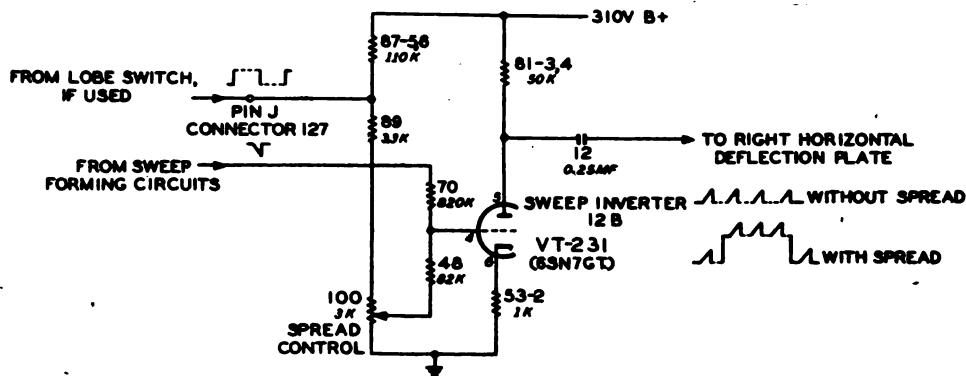
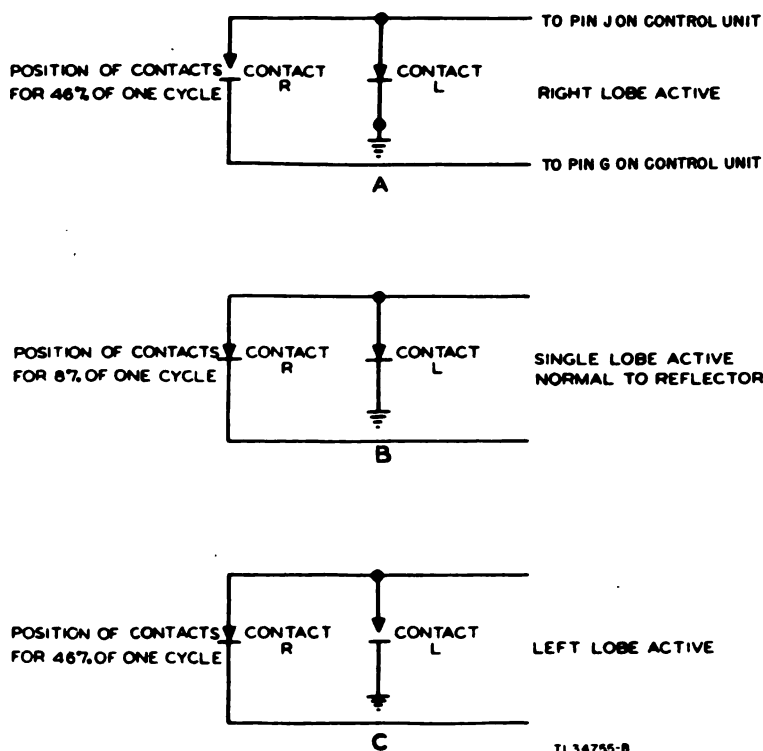

Figure 46. Sweep inverter and spread circuits.
Figure 49. Typical cam operation with a lobe-switching antenna.
**a. Sweep Inversion.** Antenna Tower Kit AS-134/TPX is normally furnished as part of Radio Equipment RC-384. This antenna system has no provisions for lobe switching. The circuit of figure 46 will therefore first be described as though no rectangular voltage wave (spread voltage) were present. In this case the SPREAD control 100 (fig. 46) is left in the counterclockwise position, that is, with the moving arm at the grounded end of resistor 100. The negative saw-tooth pulse from the sweep forming circuits is attenuated by the voltage divider consisting of resistors 70 and 48. The voltage divider applies the negative saw-tooth pulse at one-eleventh the original amplitude to the grid of sweep inverter tube 12B. The tube is self-biased by cathode resistor 53-2. This resistor is not bypassed by a capacitor and the resulting degenerative feed back reduces the gain of the stage to a ratio of 11:1. The output appears across the plate load resistors (81-3 and 81-4 in parallel) as a positive saw-tooth pulse with the original amplitude. This pulse is coupled to the right horizontal-deflection plate of the display tube by capacitor 12. Simultaneously, an equal-amplitude but negative saw-tooth pulse is applied to the left horizontal-deflection plate by the sweep-forming circuits. The negative pulse *pushes* the electron beam from left to right and the positive pulse *pulls* the electron beam from left to right; because of the "push-pull" action, each pulse need have only half the amplitude necessary when a single pulse is used. The advantage of low-amplitude pulses is that they can be formed and preserved with more linearity than high-amplitude pulses.
(4) The mechanism for producing a displaced pattern for either lobe is a combination of mechanical switching in the lobe switch and a process of changing the sweep-positioning voltage on the right horizontal-deflection plate of the display tube. Figure 49 shows the d-c connections in a typical lobe switch for three possible combinations of cam contacts during any cycle.
(5) If a lobe-switching antenna is used, Cord CD-1382, which connects the control unit to the rack, would have to be discarded because it makes no connection to pins G and J of control unit receptacle 127; another cord is substituted which connects pin G (fig. 52) and pin J (fig. 46) with the lobe switch (fig. 49). (The pin G connection is explained in paragraph 44.)
(6) Pin J (fig. 46) is connected to the junction of resistors 87-5 and 87-6 in parallel and resistor 89.
When contact L is open (fig. 49-C), this junction point is also connected, through pin G, to the cathode circuit of tube 7B (fig. 52). The voltage dividers from B+ to ground in both circuits (figs. 46 and 52) combine to apply about 21 volts of positive dc to the pin J connection point (fig. 46). This voltage is reduced by the voltage divider consisting of resistor 89 and SPREAD control 100 so that about 10 volts appear across the SPREAD control. Any portion of the 10 volts can be picked off by the moving arm of the SPREAD control and applied to the grid of tube 12B. When the grid potential is raised by voltage from the SPREAD control, the plate voltage is lowered. When contact L is closed (fig. 49-A and -B), the pin J connection point (fig. 46) is at ground potential, no voltage appears across the SPREAD control, and the plate voltage of tube 12B is raised.
(7) Thus two operating levels of plate voltage are established. These levels can be considered as *platforms of voltage*, the lower platform appearing for 46 percent (fig. 49-C) of the 33,333-microsecond duration of each lobe-switch cycle, and the higher platform appearing for 54 percent (fig. 49-A and -B) of the cycle. The saw-tooth pulses are superimposed on these voltage platforms (fig. 46).
(8) Coupling capacitor 12 is large enough (0.25 microfarad) to pass the comparatively long voltage platforms to the right horizontal-deflection plate
#### 44. BLANKING AND BRIGHTENING OUTPUT CIRCUITS (figs. 49 and 52).
(1) Tube 7B is biased to cut-off by the voltage divider consisting of resistors 87-1 through 87-4 in parallel and the cathode resistor 56. The cathode is connected to the blanking cam of the lobe switch (contact R, fig. 49) through pin G of connector 127 when a cable suitable for use with a lobe-switching antenna is substituted for Cord CD-1382.
(2) During the 8 percent of each lobe-switch cycle when the lobe switch is shifting from one lobe to the other (fig. 49-B), the cathode of tube 7B is grounded and the tube conducts. Its plate voltage drops and remains lower for 8 percent of the lobe-switch cycle. When the contact opens, the tube is again cut off and the plate voltage rises. The result is a negative rectangular pulse at the plate of tube 7B.
(3) The typical lobe switch represented in figure 49 makes 30 complete revolutions per second and each revolution takes 33,333 microseconds. The duration of each blanking pulse at the plate of tube 7B is 8 percent of each revolution (2,667 microseconds). The repetition rate of the blanking